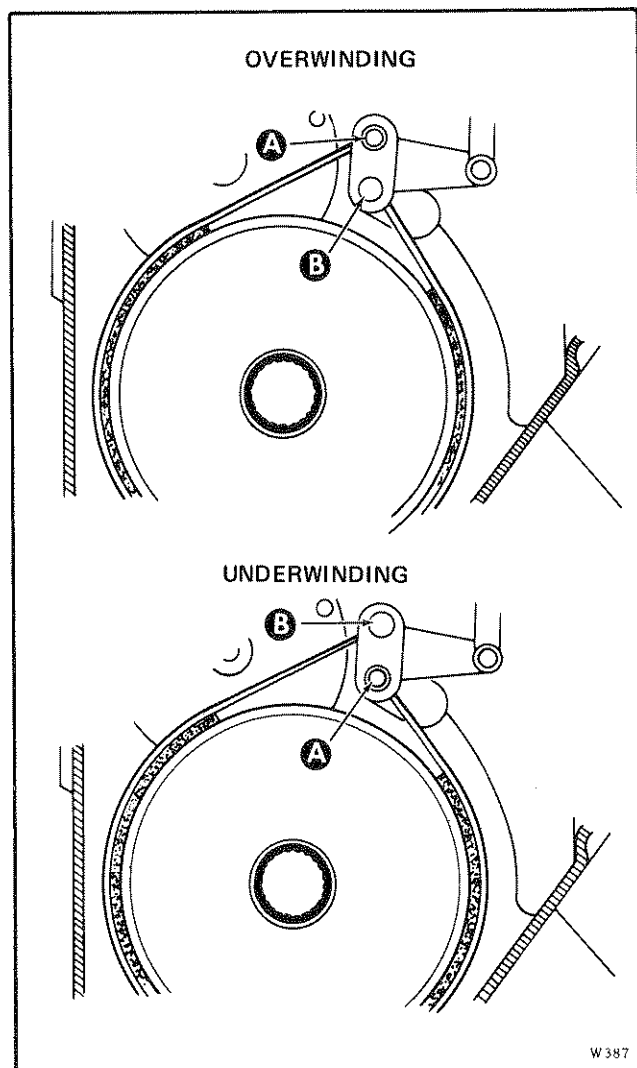

FIGURE 4-7. BRAKE BAND OVERWIND AND UNDERWIND ARRANGEMENT
- Brake Band.** (See Figure 4-7.) Change the anchoring end of the brake band by changing the positions of pins **A** and **B**.
a. Brake Band. (See Figure 4-7.) Change the anchoring end of the brake band by changing the positions of pins **A** and **B**.